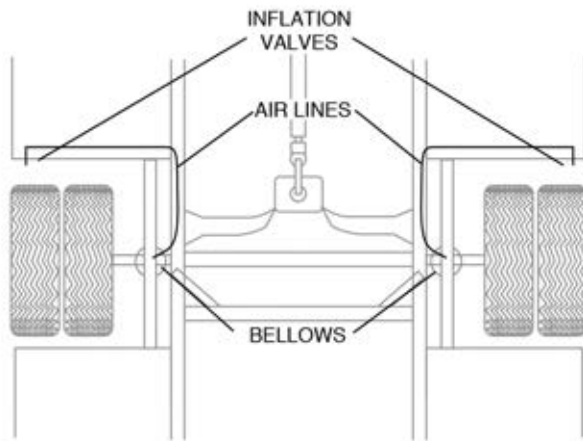

fig. 3
14. Select a location for the inflation valves in the rear bumper area or rocker panel flange insuring that each valve will be protected and accessible with an air hose (Figure 3).
16.Route air line from inflation valve location along frame rail to bellows. Route the air line so that it will be protected from the direct heat from the muffler or tailpipe and kept away from sharp edges. The air line should not be bent or curved sharply (Figure 3). Attach air line to chassis with the provided plastic straps.